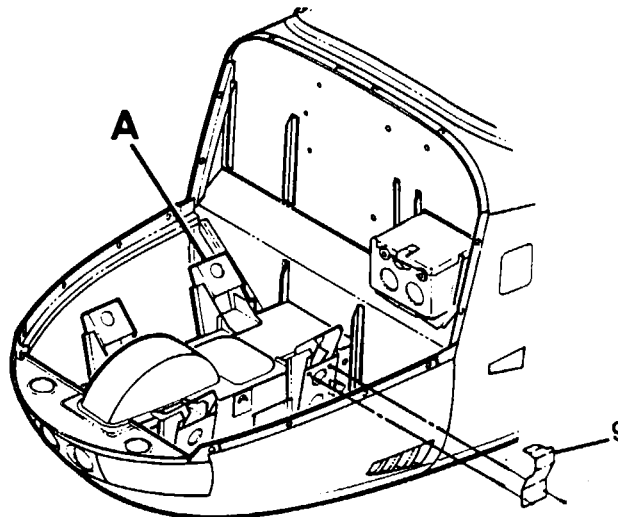

Figure 12-2. Engine Mount Installation
If shock-mounts will be reused, mark each one so it will be reinstalled in exactly the same position. If new shock-mounts will be installed, position them as illustrated in figure 12-2.
- b. Install engine shock-mounts and ground strap as illustrated in figure 12-2.